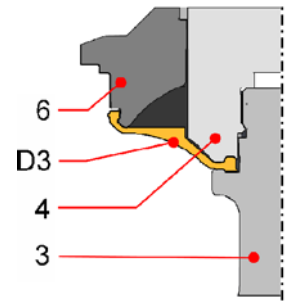

Fig. 3
During assembly, tie diaphragm (D3) carefully on lantern (6) and on the upper piston (4). Fig. 3 /Page 7